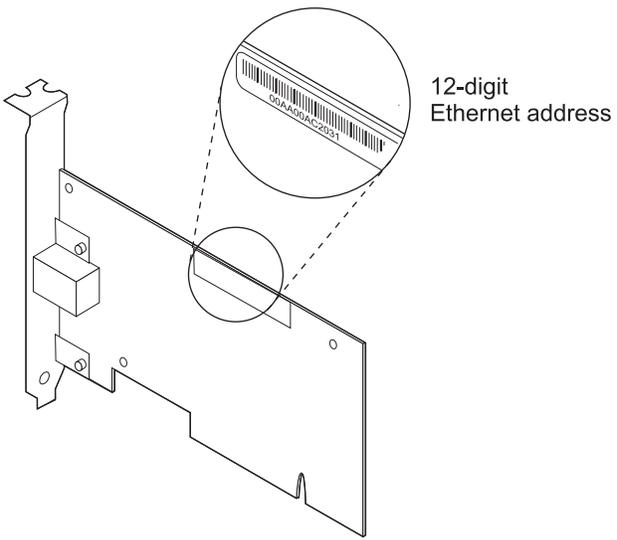

Figure 2-2. Ethernet Address Location
**Note:** The adapter Ethernet address is printed on a sticker on the edge of the adapter as shown in Figure 2-2 on page 2-4. The Ethernet address is sometimes called the *Node address* or the *MAC address*. This unique, 12-digit hexadecimal address was stored in the adapter memory at the factory.